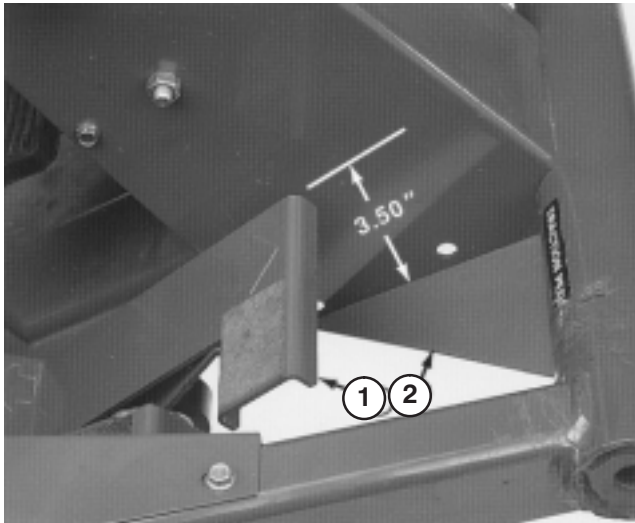
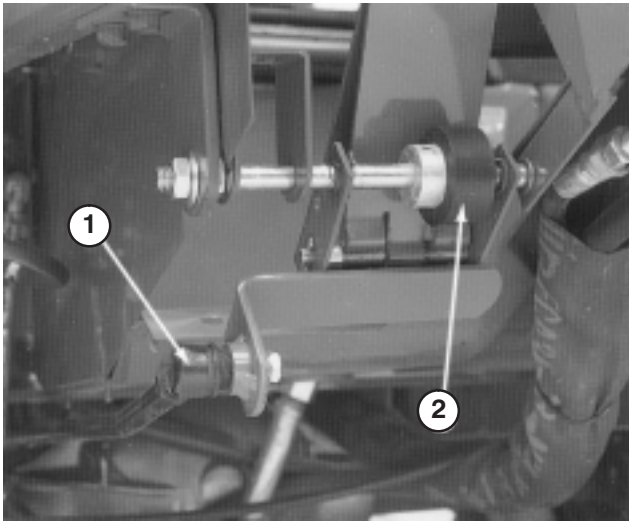

Figure 48
Figure 49
2. Press down on front of traction pedal and check travel. There should be approximately 3.50" clearance between end of pedal and floor plate when pedal in fully depressed (Fig. 48). Adjust pump control rod (Fig. 49) to attain dimension.
1. Loosen two nuts securing traction pedal shaft on right side of pedal (Fig. 49).